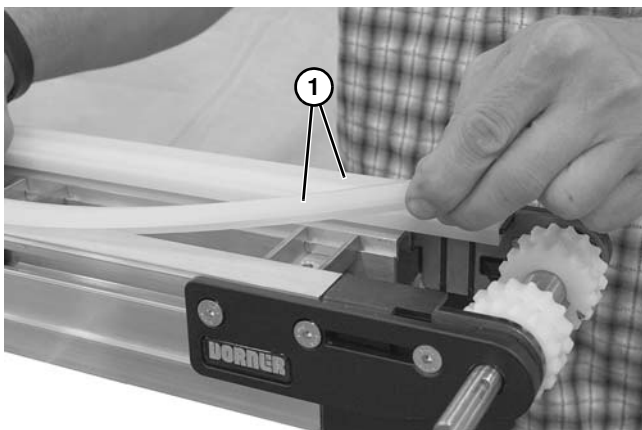

Figure 41
2. Remove upper wear strips (**Figure 41, item 1**) from end drive.